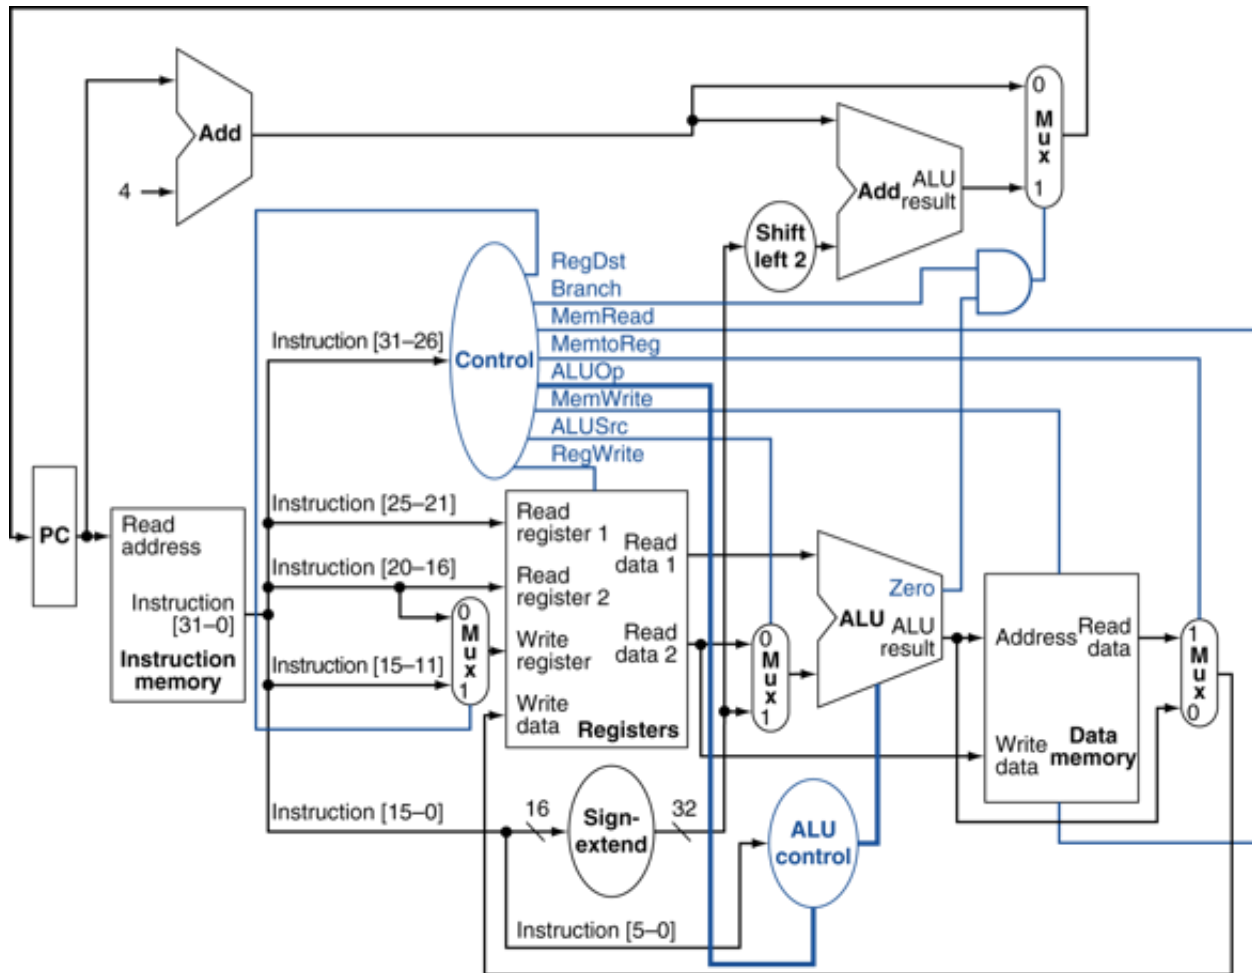

Figure 5
6. The latencies of individual components of the datapath, shown in Figure 5, affect the clock cycle time of the entire datapath. Thus, for the following latencies, what is the clock cycle time if the only type of instructions we need to support are ALU instructions (add, and, etc...)? What is the clock cycle time if we only had to support lw instructions? What is the clock cycle time if we must support add, beq, lw, and sw instructions? If we can improve the latency of one of the given datapath components by 10%, which component should it be? What is the speed-up from this improvement?
7. Consider the single-cycle datapath in Figure 5, for the instruction listed in table below, show the values of various control signals needed to execute instruction. Note that ALU function is ADD when ALUOp is 00, Subtract when ALUOp is 01 and determined by Funct part of instruction when ALUOp is 10 for R-type instructions.
8. We wish to add the instruction sll (shift left logical) to the single-cycle datapath shown in Figure 5. Add any necessary datapaths and control signals. Show any necessary addition for the table of control signals similar to that in Exercise 7, if needed.
11. Assuming the latencies shown in the table below for single data path in Figure 5, what will be the latency of each of the instructions: Add, Addi, lw, sw and beq.
12. We wish to add a variant of the lw (load word) instruction to the single-cycle datapath shown in Figure 5. The instruction increments the index register after loading word from memory. This instruction (l_inc) corresponds to the following two instructions: